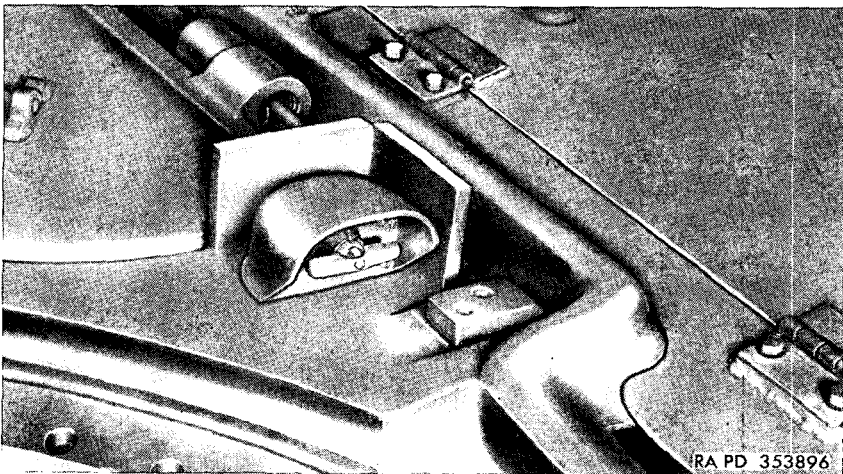

Figure 75. Remote control handle for fixed fire extinguisher system.
a. **FIXED FIRE EXTINGUISHERS** (fig. 324). Three fixed fire extinguisher cylinders are located between the driver's and the assistant driver's positions in the crew compartment. They are connected by lines to three discharge nozzles located throughout the vehicle. To operate from inside, pull the safety pin from the fixed fire extinguisher control on the left cylinder and pull down on the pull handle (fig. 324). To operate from outside the vehicle, pull out the remote control handle located on top of the hull behind the assistant driver's door (fig. 75) and let go.